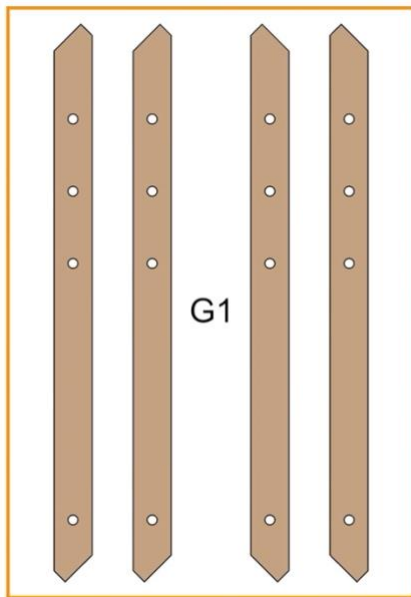

Fig. 15
- Align the parts EXACTLY as shown in Fig. 15 and 16.